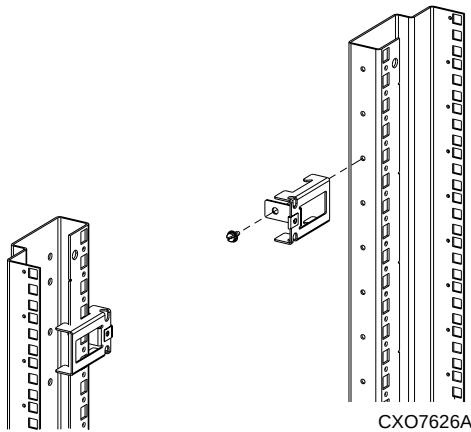

Figure 4: Side flange bracket installation
3. Using 10-32 x 3/8 in hex head self-tapping screws, secure side flange brackets to each inner rail (see Figure 4). Align side flange brackets with rail-rear holes pencil marked “R.”